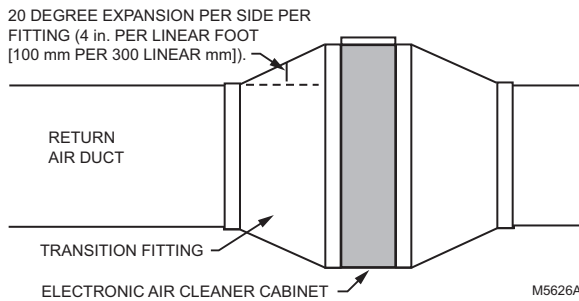

Fig. 4. Change duct size gradually to minimize turbulence.
Transitions are needed when the duct is a different size than the air cleaner cabinet. Gradual transitions reduce air turbulence and increase efficiency. Limit expansion to no more than 20 degrees or about 4 in. per running foot (100 mm per 300 linear mm) on each side of a transition fitting. See Fig. 4.
- Install a transition when the furnace and air cleaner openings are different sizes. See Fig. 4.
- Mount turning vanes inside the elbow or angle fitting that is directly against the air cleaner cabinet. See Fig. 4.
- Install a transition when the opening in the air cleaner cabinet and the duct are different sizes. See Fig. 4.